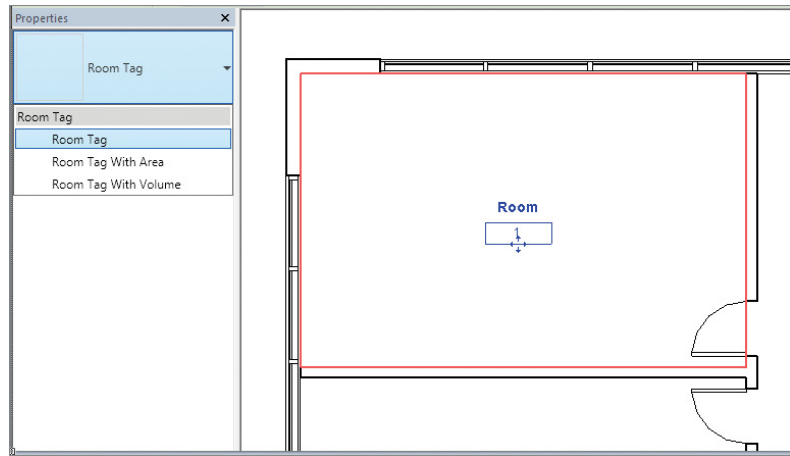

FIGURE 8.3 Room tag
2. Place a room in the upper-left space on the Level 1 floor plan. Notice that the default room tag indicates only the room name and number (Figure 8.3), but more options are available.